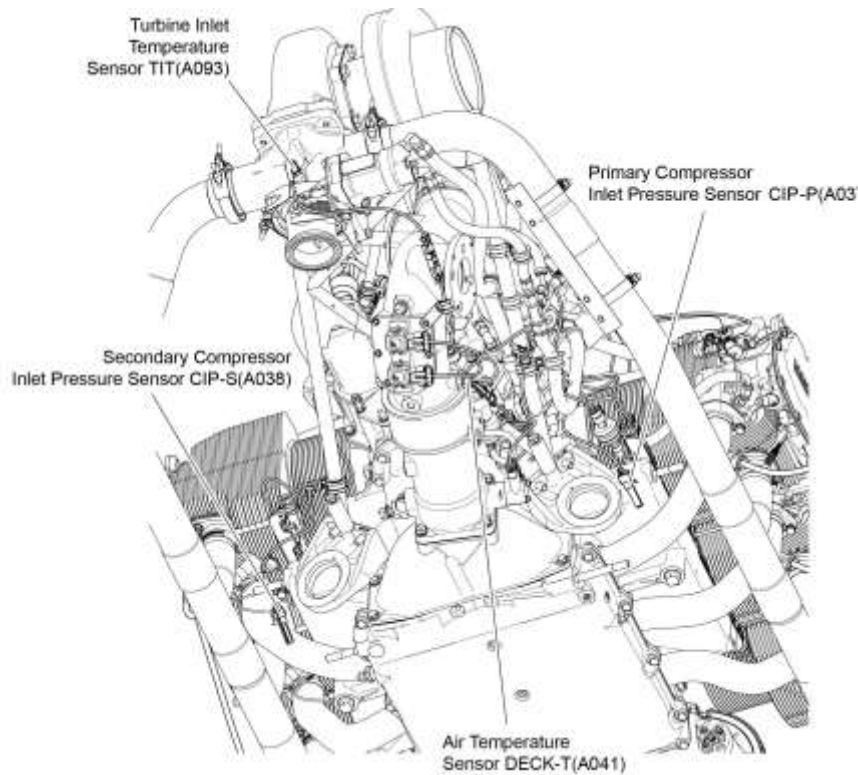

Figure 41
- F. Disconnect the connector A093-P (TIT) (Figure 41) from the sensor for the turbocharger inlet on the left side (exhaust bypass valve side) of the engine.